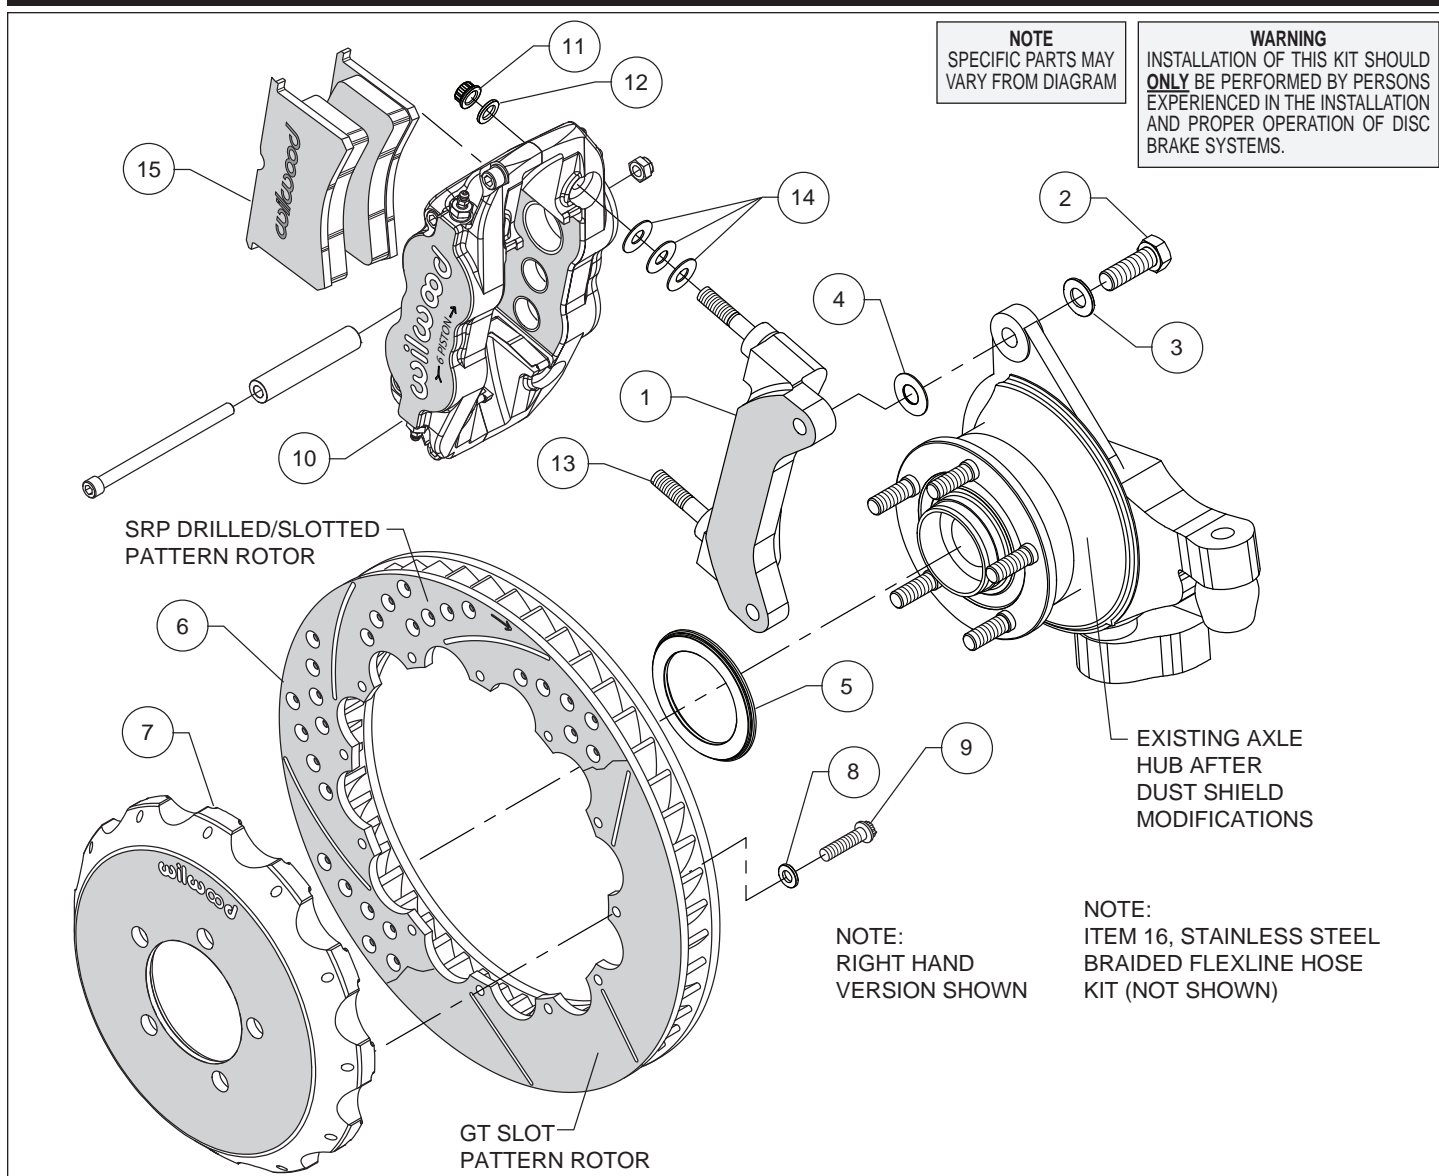
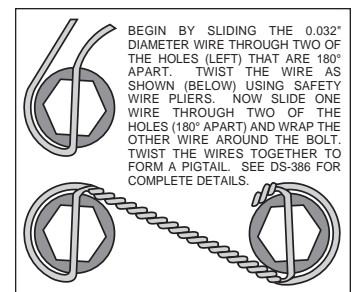

Figure 1. Typical Installation Configuration
Figure 4. Safety Wire Diagram
Assembly Instructions (numbers in parenthesis refer to the parts list and Figure 1 on the preceding pages):
- The caliper mount bracket (1) should initially be installed with clean, dry threads on the mounting bolts. Orient the bracket as shown in Figure 1, and install using washers (3) and bolts (2). Initially place one shim (4) on each bolt between the bracket and upright, Figure 1. Temporarily tighten the mounting bolts. **NOTE:** The bracket must fit squarely against the mount bosses on the upright. Inspect for interference from casting irregularities, machining ridges, burrs, etc. Later, after the caliper alignment has been checked, the mount bolts will be secured using red Loctite® 271.
- Orient the rotor (6) and the hat (7) as shown in Figure 1 and Photo 1. Attach rotor to hat using bolts (9) and washers (8). Using an alternating sequence, apply red Loctite® 271 to the threads, and torque to 155 in-lbs. For an added measure of security, the bolts may be safety wired using standard 0.032 inch diameter stainless steel safety wire as shown in Figure 4. Please refer to Wilwood's data sheet DS-386 (available at www.wilwood.com/Pdf/DataSheets/ds386.pdf) for complete safety wire installation instructions.
- Slide the rotor registration adapter (5) onto the axle register on the axle hub with the smaller O.D. facing outward, Photo 2. Slide the hat/rotor assembly onto the axle hub. **NOTE:** The hat must fit flush against the axle hub flange or excessive rotor run out may result. Install three lug nuts (finger tight) to keep the hat/rotor assembly in place while continuing with the installation.
- NOTE:** This kit contains distinct right and left hand calipers that must be mounted in a specific direction, as described below. Lubricate the caliper mounting studs (13) with lightweight oil. Initially place three .035" thick shims (14) on each stud as shown in Figure 1 and Photo 3. Mount the caliper (10) onto the bracket (1) using lock nuts (11) and washers (12), Figure 1. Ensure that the caliper is mounted so that the largest pistons are at the rotor exit end of the caliper, in relation to the direction of rotor rotation. Temporarily tighten the lock nuts and view the rotor through the top opening of the caliper. The rotor should be centered in the caliper, Photo 4. If not, adjust by adding or subtracting shims (4) between the bracket and the upright. Always use the same amount of shims on each of the two mounting bolts. Once the caliper alignment is correct, remove the bracket mounting bolts (2) one at a time, apply red Loctite® 271 to the threads, and torque to 60 ft-lb.